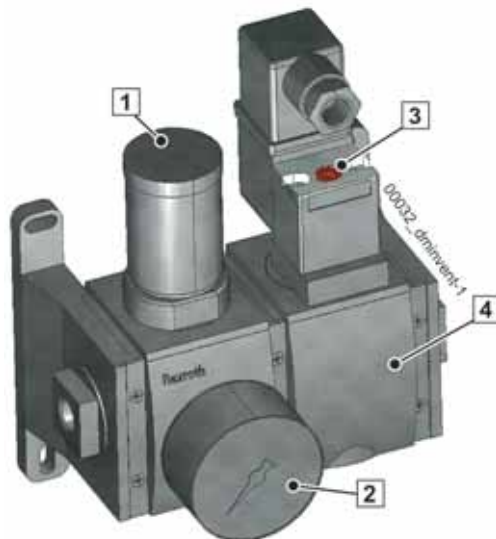

Fig. 496
In the event the electrical control system fails, the solenoid valve (4) (**Fig. 496**) can be switched using an emergency release (3) (**Fig. 496**).
- Read the pressure gauge (2) for the pressure release valve (**Fig. 496**).
- Set the pressure to 5 bar by turning the set screw (1).